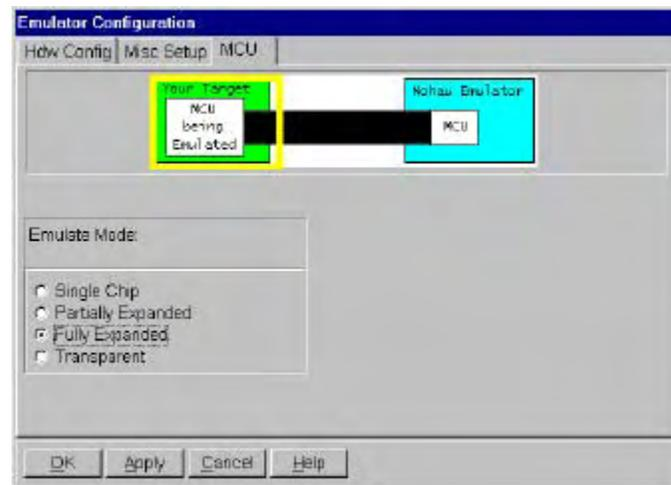

Figure 79. Emulator Target Configuration
9. The **MCU** dialog box has two distinct areas: The top area has a graphic that has what appear to be two boards connected by a black ribbon. Move your cursor over the left part labeled **Your Target – MCU being Emulated** and select it. A colored box will move to the left and a secondary dialog box appears with four option buttons (Figure 79). This area represents the chip that the emulator is pretending to be.